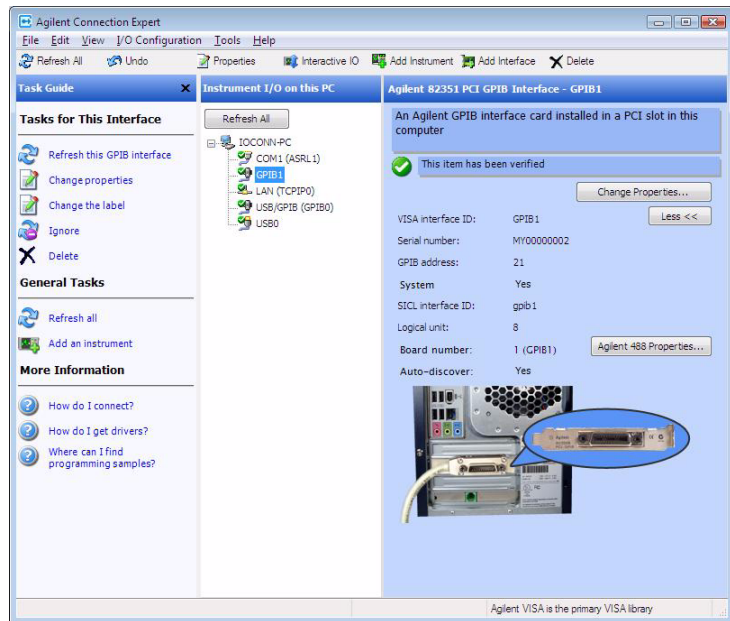

Figure 1-12 Keysight Connection Expert window
- 1 **Open Connection Expert.** Click the IO icon on the Windows taskbar notification area and select Keysight Connection Expert. Highlight and right-click the GPIB interface in the explorer view (tree view at the center of the window) and then click **Change Properties...** to display the **Keysight 82351A PCIe-GPIB Interface** dialog box as shown in **Figure 1-12**.